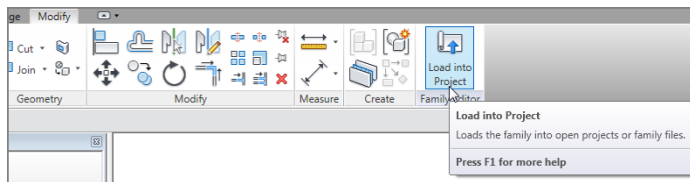

FIGURE 12.31: The Load Into Project button
19. On the Family Editor panel on the Create tab, click the Load Into Project button, as shown in Figure 12.31.